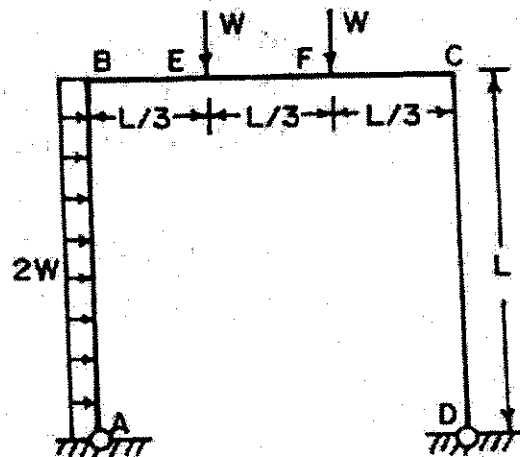

Fig 1
1. a. Explain the different theorems adopted in Plastic Theory (5)
b. Determine the shape factor of a triangle of breadth 'b' and height 'h' (4)
2. Determine the Plastic Moment of the frame shown in Fig.1 (9)